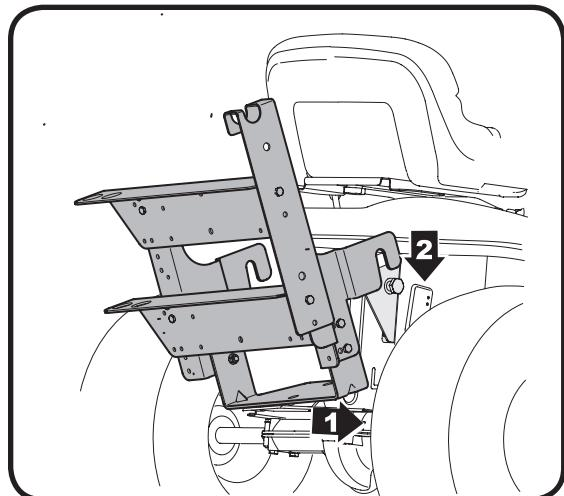

Figure 11
5. Position the hooked ends of the mounting bracket assembly to the outside of the support brackets and over the shoulder bolts just installed on both sides of the tractor frame. See Figure 11.
- Position the hooked ends of the mounting bracket assembly to the outside of the support bracket and over the shoulder bolts on both sides. Refer back to Figure 11 for reference.